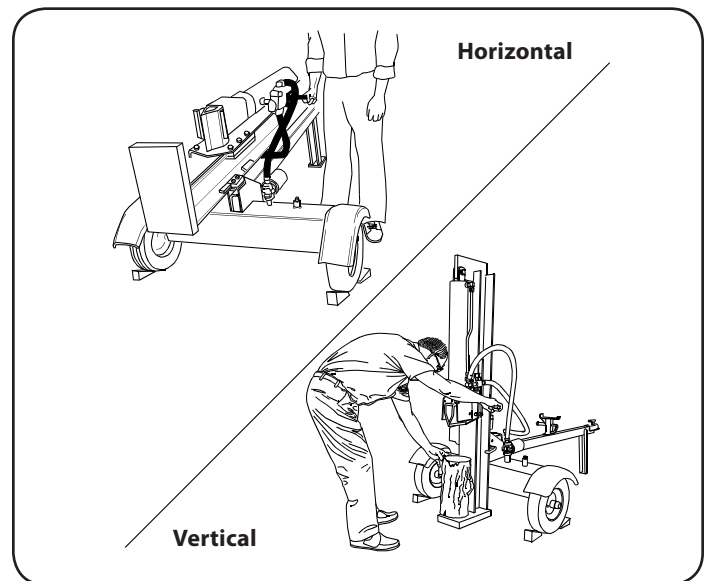

Figure 1
- a. Horizontal Operating Position: Stand on the control lever side of the log splitter in front of the wheel as shown in Fig. 1.
- b. Vertical Operating Position: Stand in front of the beam and log as shown in Fig. 1.